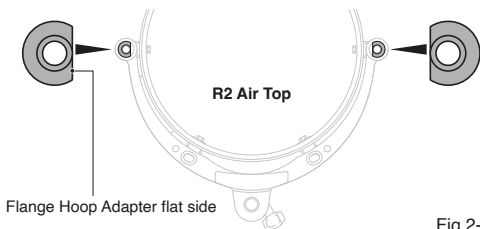

Fig.2-B
2. How to install the R2 Air Suspension System Upper Section to the batter side of the drum shell. First, place the drum shell on a flat surface with the batter side up. Position the Tom Holder Receiver Body on the desired drum shell panel so that once the drum is placed within your setup, the drum badge will face outward as expected. Double-check to ensure the ResoDisk is facing upward above the respective lugs. Next, install the Batter Head, Die Cast Hoop, and Tension Rods finger tight (Fig.2).
If using Flange Style Hoop, see (Fig.2-A, 2-B) to install the Flange Hoop Adapters.
When using Flange Style Hoops, the Flange Hoop Adapter must be used to correctly install the R2 Air Suspension System (Fig.2-A, 2-B).
- If using the Flange Hoop Adapter, the top of the adapter should be in contact with the flange section of the hoop, refer to (Fig.2-A, 2-B).